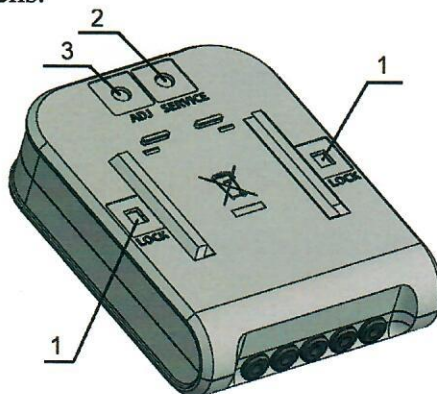

Fig.6. Sealing of the calculator of the heat meter
The newly manufactured complete meter calculator shall not be subject to additional sealing. Access to the calculator cover release latch (Fig. 6, pos. 1), the parameter change and test mode activation contacts (Fig. 6, pos. 2) and adjustment data activation contacts (Fig. 6, pos. 3) is protected by easy break-out screens.
When the abovementioned casing screens are break-out (after opening the calculator casing, changing the meter parameters, adjusting the meter or activation the test mode), open slots are sealed with metrological seal-stickers (Fig. 6, pos. 1 and pos. 3) and with the protective seal-sticker of heat supplier (Fig 6, pos. 2).
Remove the screen „SERVICE“ on the back of the calculator or, if the screen has already broken down, a protective seal-sticker is removed (Fig. 6, pos. 2 of this appendix), or, for a combined device, opens the calculator box. By short-circuiting the contacts „SERVICE“, the SERVICE mode is activated, symbol „<->“ and sign „TEST“ are displayed on the LCD.